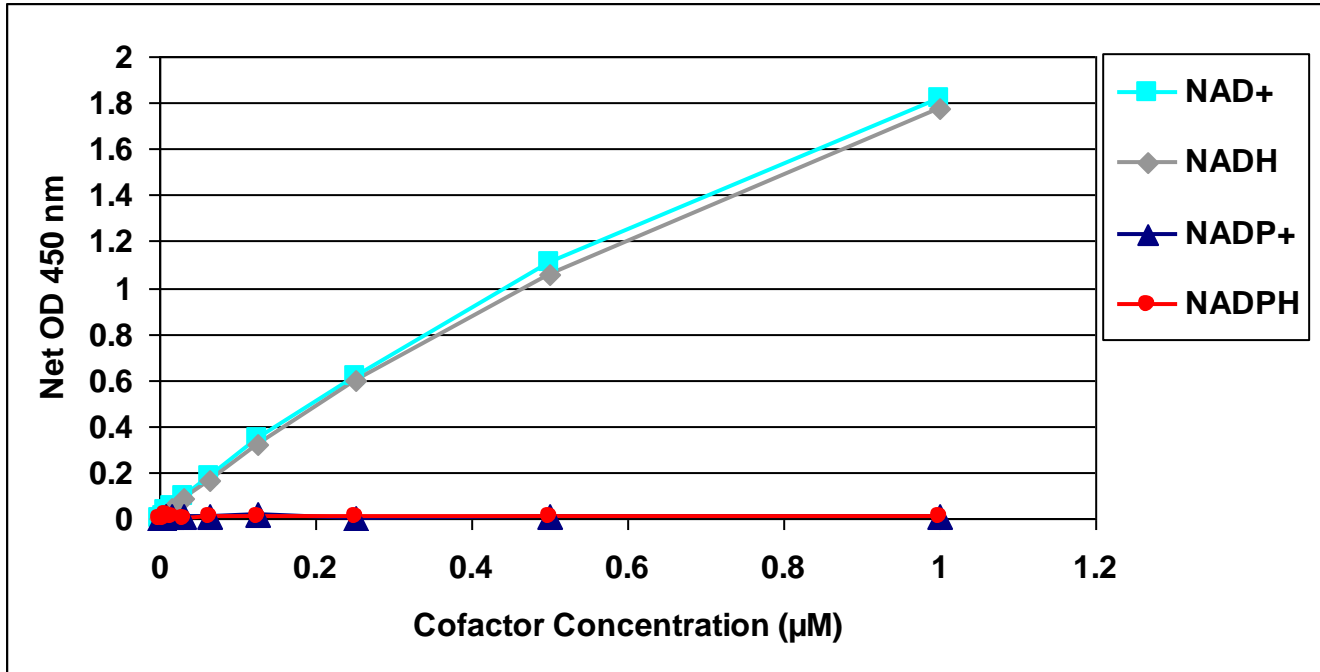

Figure 2: NAD⁺ Standard Curve and Specificity of Assay for NAD⁺ and NADH. NAD⁺, NADH, NADP⁺, and NADPH were tested in the NAD⁺/NADH Assay Kit.
2. Plot the corrected absorbance for the NAD⁺ standards against the final concentration of the standards from Table 1 to determine the best slope (μM^{-1}). See Figure 2 for an example standard curve.